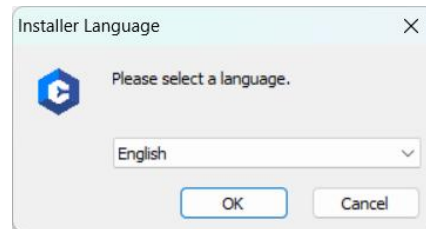

Figure 4-3 Select Language
1. Double click the 3DeVOK Studio V4.2.6.2.exe, select the language and click OK, as shown in Figure 4-3.